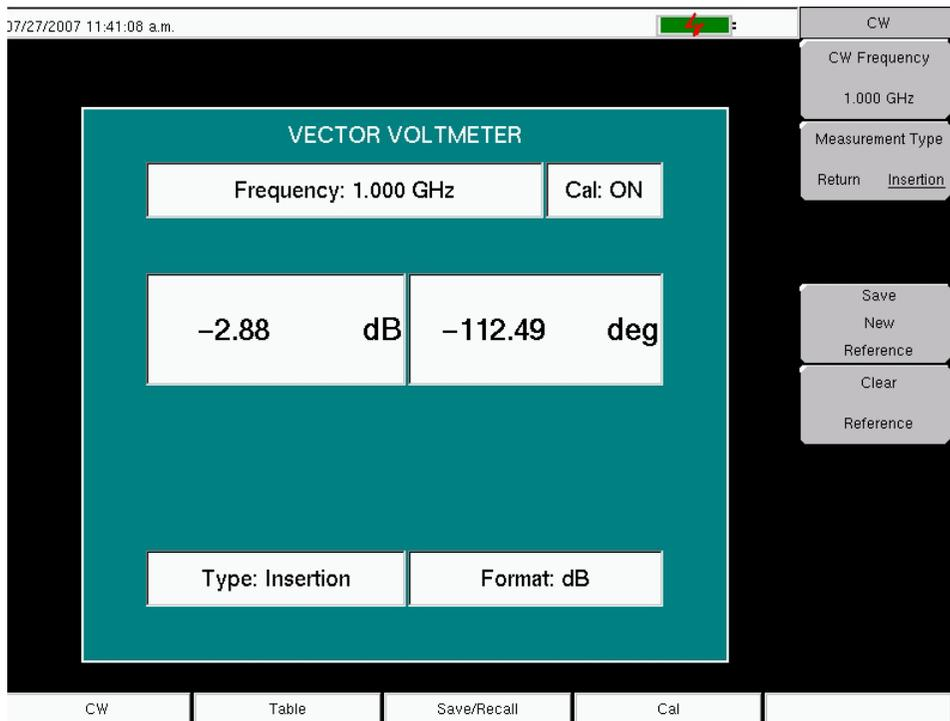

Figure 8-4. Continuous Wave Menu
11. Connect the DUT for measurement. The display should appear similar to the image in Figure 8-4.